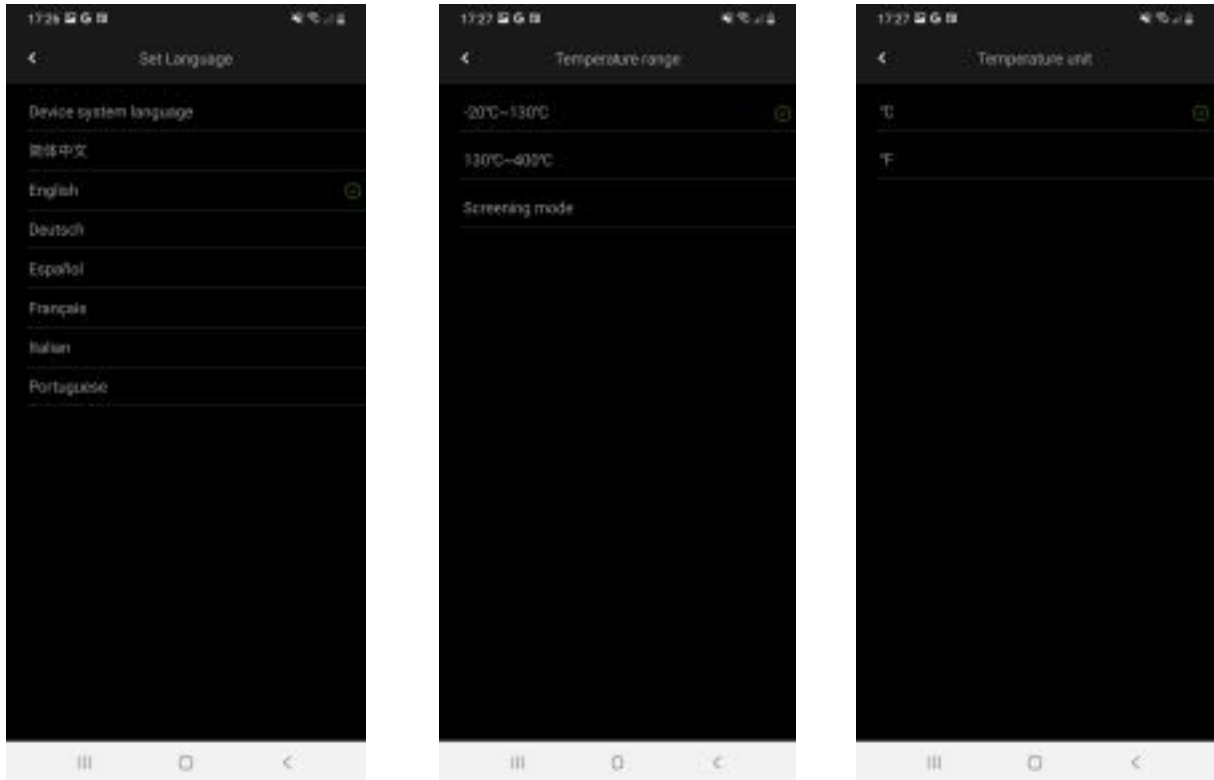

Fig. 5: Visualization of settings section
- **Set Language** → allows the selection of the language of the application from those available. The "Available system language" option allows automatic selection of the system language of the mobile device (see Fig. 5 – left side)
- **Temperature Unit** → allows the selection of the unit of measurement of temperature among the options:  $^{\circ}\text{C}$  and  $^{\circ}\text{F}$  (see Fig. 5 – right side)